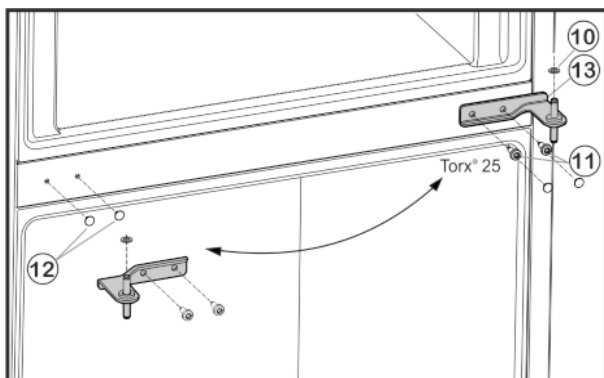

Fig. 5
- ▶ Carefully pull off the covers Fig. 5 (12) and fit to the opposite side.